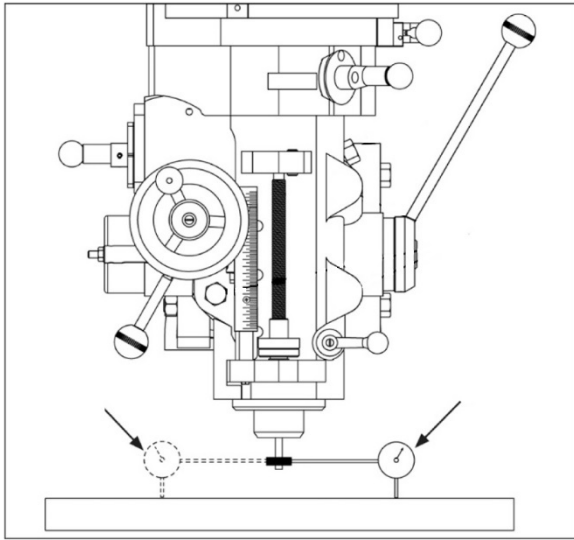

Figure 9-2
5. Set up a dial indicator in a collet and secure using draw bar (refer to Figure 9-2).